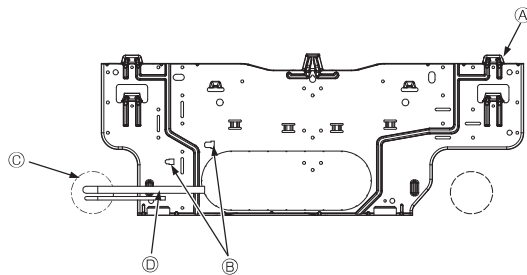

Fig. 3-6
- Ⓓ Fixing screws (4 × 25) ②
- Ⓕ Mount board ①
3.3. When embedding pipes into the wall (Fig. 3-6)
- Ⓐ Mount board ①